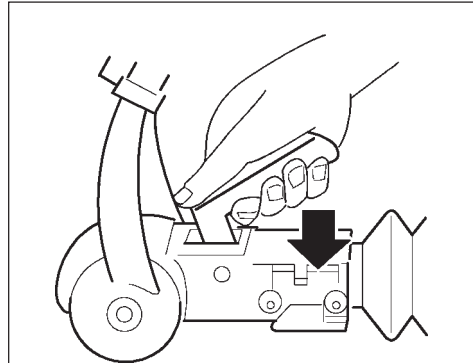

Fig. 1
- Using the coupling handle, put the AKS on to the towball. Push the black handle down and check the green indicator button is showing (Fig. 1).